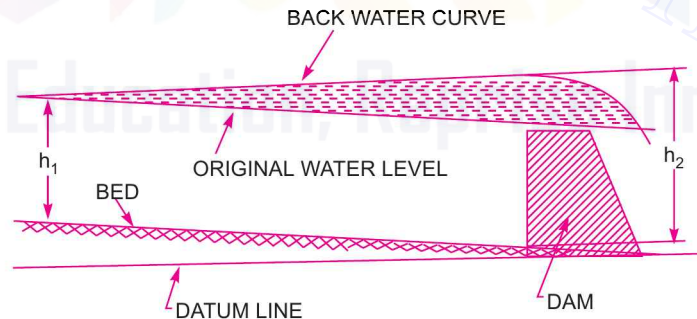

Fig. 16.30 Back water curve and afflux.
**16.9.2 Back Water Curve and Afflux.** Consider the flow over a dam as shown in Fig. 16.30. On the upstream side of the dam, the depth of water will be rising. If there had not been any obstruction (such as dam) in the path of flow of water in the channel, the depth of water would have been constant as shown by dotted line parallel to the bed of the channel in Fig. 16.30. Due to obstruction, the water level rises and it has maximum depth from the bed at some section.